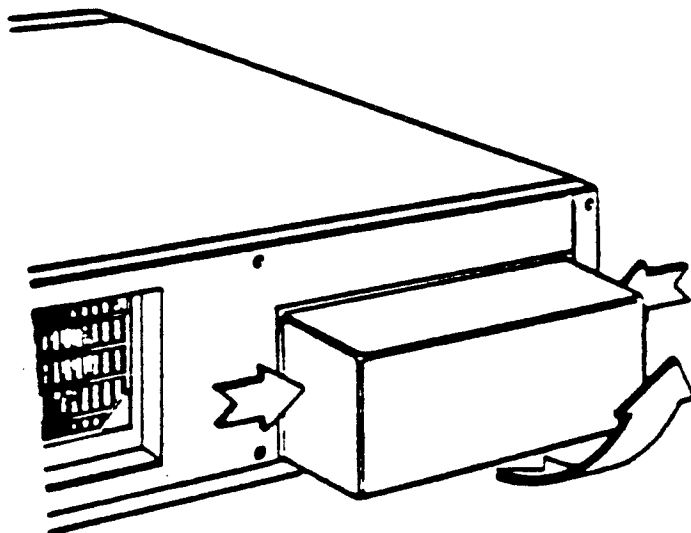

Figure 1-1. Cable Guard Removal/Replacement
2. Remove the cable guard from the rear of the computer by pressing the guard in on each side and tilting it up and out (see Figure 1-1).